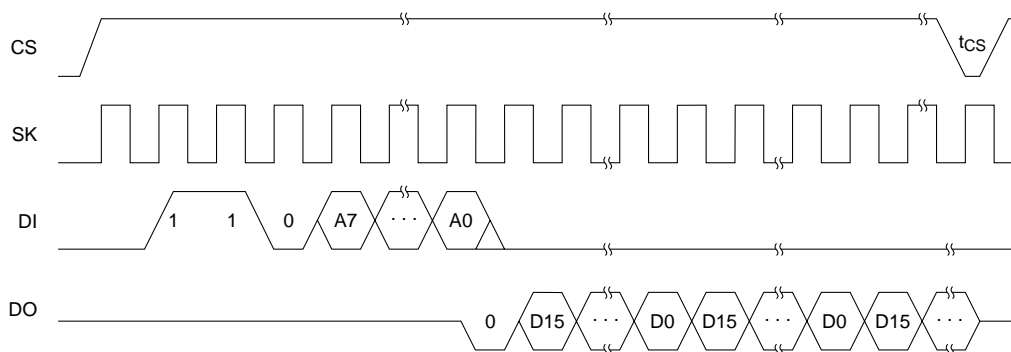

FIGURE 8. Sequential Read Sequence
The READ cycle requires the host to raise chip select (CS) and then clock in thru the Data-In (DI) pin a start-bit, op-code, and address. Following clocking in the last address bit, the Data-Out (DO) output comes out of the high impedance state and drives a low level on the output. This is referred to as the dummy bit and is a good indication that a READ mode has been successfully entered if difficulty is encountered during initial debug of a system. The dummy bit is clocked out of the EEPROM on the same rising edge of SK that clocks in the last address bit, A0. This is shown in Figure 8.
word is preceded by a dummy bit as in a standard READ, although the dummy bit is suppressed in all subsequent data words as shown in Figure 8.